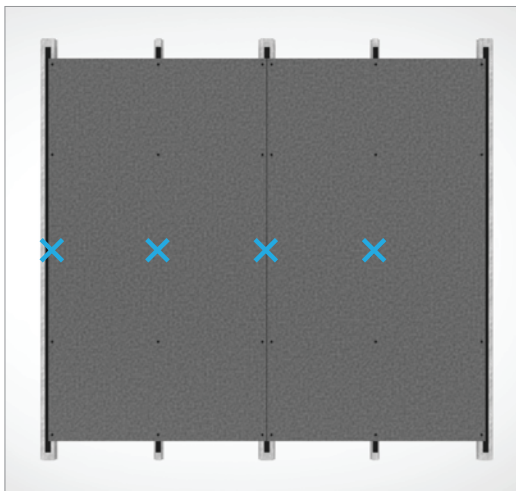

FIGURE 15.
- When installed in a vertical layout, the boards must have at least two fixed points as close to the centre of the panel as possible. (see Figure 15 & 16)